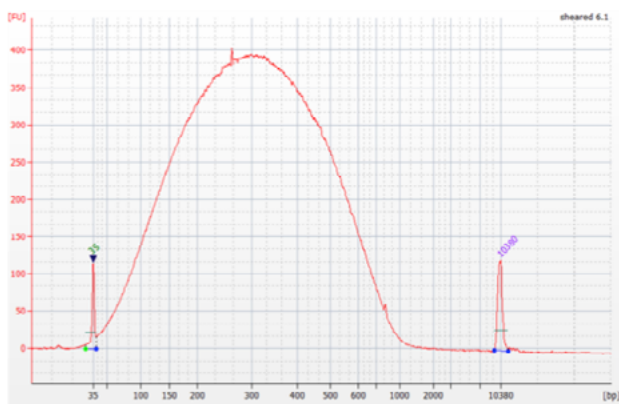

Figure 1. Typical Bioanalyzer trace for gDNA sheared to 300 bp using a Covaris Focused-ultrasonicator.
1. If enough sheared/fragmented DNA is available, analyse 1 μ L on a Bioanalyzer High Sensitivity Chip to determine size distribution. Be aware that you must run ≥ 0.5 ng of DNA on a High Sensitivity Chip in order to detect it. See Figures 1 and 2 for typical Bioanalyzer traces after shearing and enzymatic fragmentation.